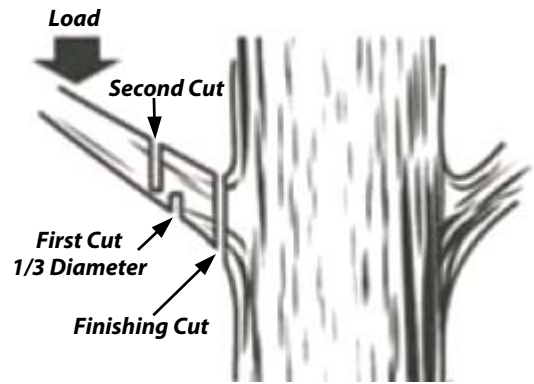

Figure 12
- Under cut the branch 1/3 through for your first cut. Your second cut should over cut to drop the branch off (**Figure 12**). Be prepared to balance the weight of the Pole Saw tool when the limb falls.